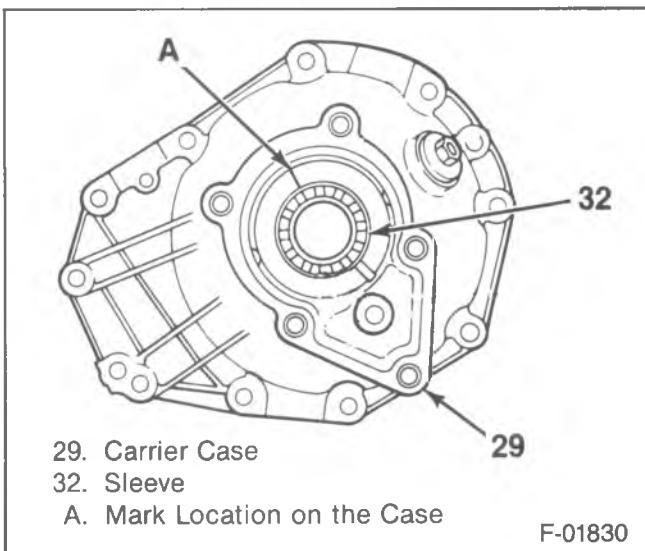

Figure 103—Marking the Adjusting Sleeve Location
- Tighten the left hand adjusting sleeves in relation to the carrier halves (figure 103), so the notches in the adjusting sleeves can be counted when turned.